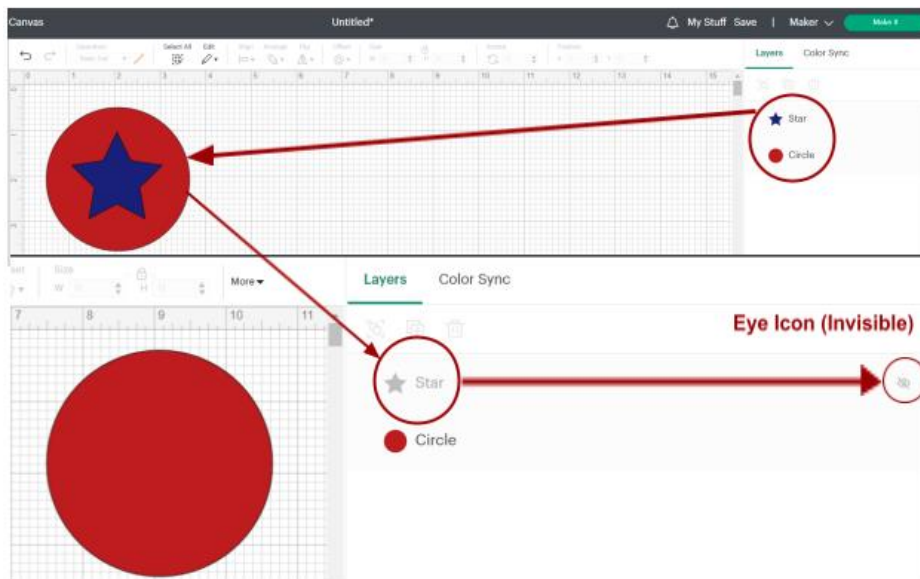

Figure 21
- Hide design elements (e.g. make Visible/Invisible using the Eye Icon located to the right of each design element layer) (Figure 21)